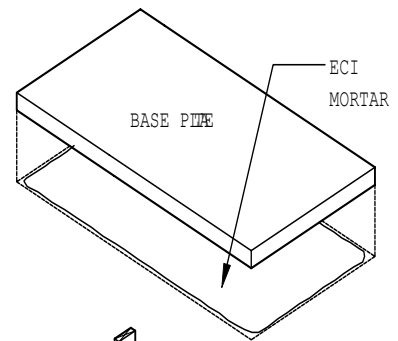

FIGURE 9
**Step 1:** Set the MAGNUM base plate in a full bed of Earthcore Mortar flat on a proper concrete support foundation. (Figure 9). Do not set the MAGNUM base plate so that it is in span. Level the MAGNUM base plate by floating it in a bed of Earthcore Mortar to full bearing against the underlying noncombustible support surface.